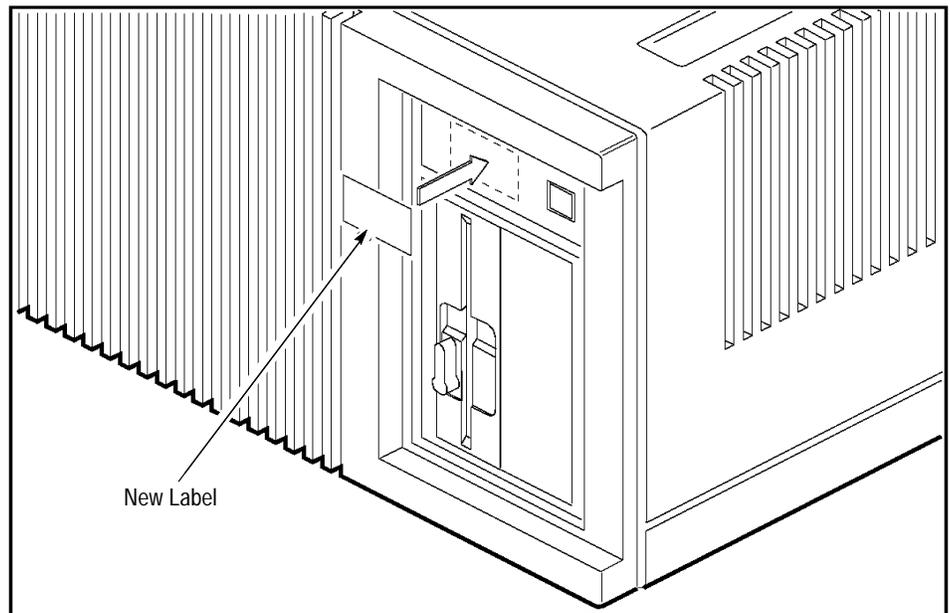

Figure 1: Location of Label on Mainframe
The DAS 9200 Mainframe System Upgrade Kits upgrade your DAS Mainframe to the new high performance mainframe, and add the new X window user interface. Determine which upgrade kit you have purchased and follow the appropriate instructions in this document. When instructed, attach the proper label to the front of the mainframe as shown in Figure 1.
9. Refer to Figure 1 on page 1 and install the appropriate label (DAS/XP or DAS/NT) on the front of the mainframe.
8. Refer to Figure 1 on page 1 and install the appropriate label (DAS/XP or DAS/NT) on the front of the mainframe.
12. Refer to Figure 1 on page 1 and install the appropriate label (DAS/XP or DAS/NT) on the front of the mainframe.
3. Attach the DAS/XP label to the front of the mainframe as indicated in Figure 1 on page 1. (It may be necessary to remove the existing label.)